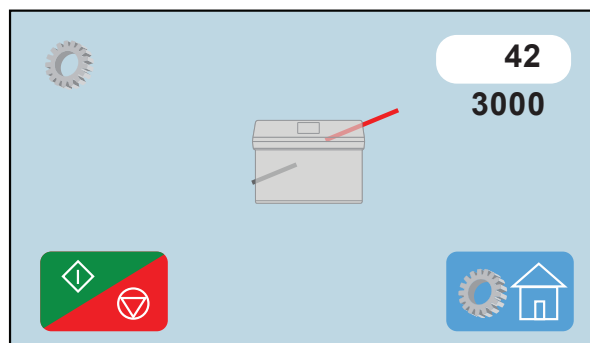

Fig. 60
- Press the Start/Stop icon “” the fold stop will move to the highest position and a number will appear in the white box (Fig. 60). Press the Start/Stop icon again to move the fold stop to the lowest position. A new number will appear in the white box for the lower position. Run the test a couple more times if the numbers remain with in 1 to 2 of the original numbers the fold table is working properly.